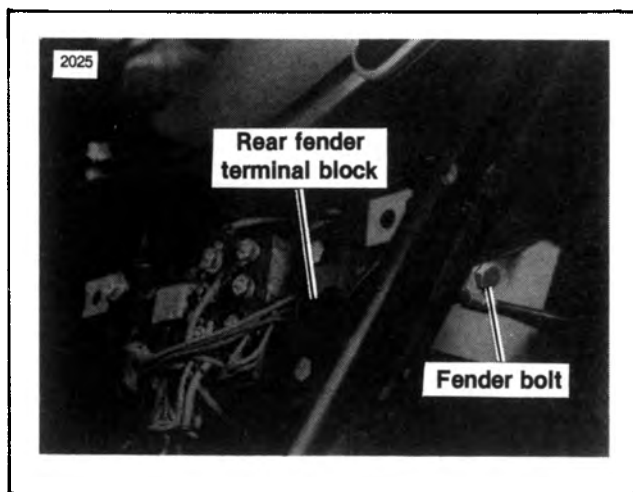

Figure 2-158. Rear Fender Bolt and Terminal Block — FXR
1. See Figure 2-158. Remove the left side cover and disconnect taillight terminal block. Remove terminal block from mounting plate and remove two gray wires from terminal block using PIN TERMINAL TOOL, Part No. HD-97362-71, making sure to mark their location in block.
4. See Figure 2-158. Remove bolt securing front of fender to frame from under the fender.
6. See Figure 2-158. Install gray wires in terminal block and install block into opening in plate. Plug in connector and replace side cover.